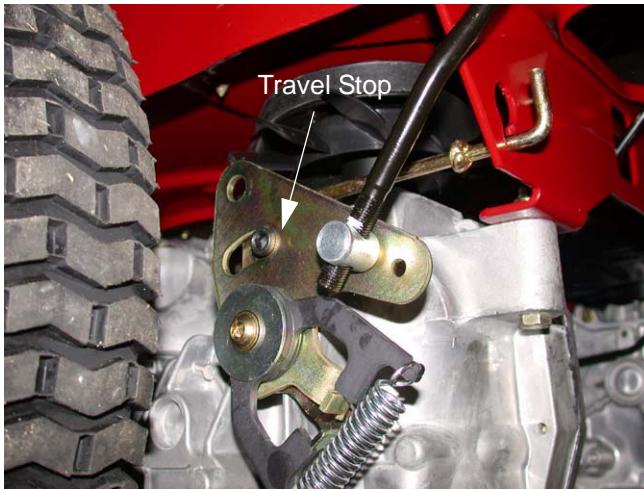

Figure 10.11
10.11. The socket head cap screws that secure the neutral return assemblies to the hydros act as a travel stop at the hydro end of the linkage. The lap bar pivot brackets should contact the stop screws before the socket head cap screw contacts the end of the slot on the neutral bracket. See Figure 10.11.